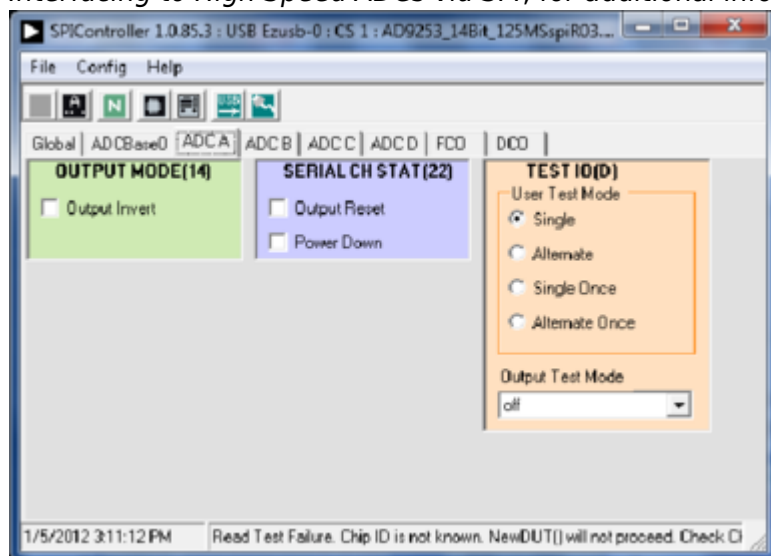

Figure 10. SPI Controller, Example
- Note that other settings can be changed on the **ADCBase 0 tab** (see Figure 9) and the **ADC A**, **ADC B**, **ADC C**, and **ADC D** tabs (see Figure 10) to set up the part in the desired mode. The **ADCBase 0** tab settings affect the entire part, whereas the settings on the **ADC A**, **ADC B**, **ADC C**, and **ADC D** tabs affect the selected channel only. See the appropriate part data sheet, the AN-878 Application Note, High Speed ADC SPI Control Software, and the AN-877 Application Note, Interfacing to High Speed ADCs via SPI, for additional information on the available settings.